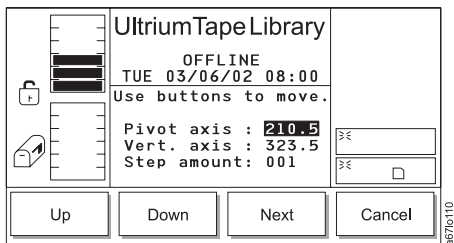

Figure 4-166. Axes Dialog
6. Press the button below the **OK** softkey. The Axes Dialog displays (see Figure 4-166).